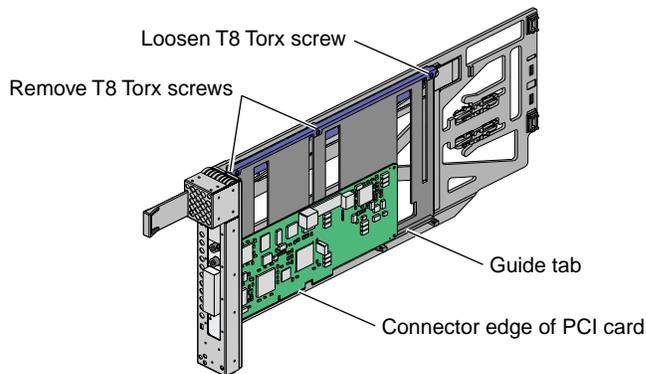

Figure 1 Mounting Half-height PCI Card into Carrier
1. Remove the two T8 Torx screws from the adjustment rail, as shown in Figure 1.
3. Place the half-height PCI card in the carrier so that the connector edge of the card rests against the lower guide tab of the carrier (see Figure 1).